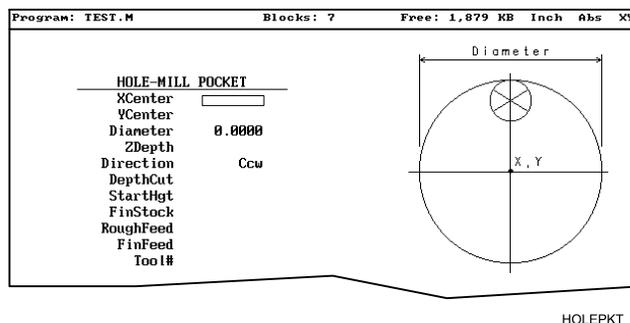

Figure 5-19, HOLE-MILL Pocket Graphic Menu
2. Highlight **Hole**, and press **ENTER** to display the **HOLE-MILL POCKET** Graphic Menu. Refer to **Figure 5-19**.